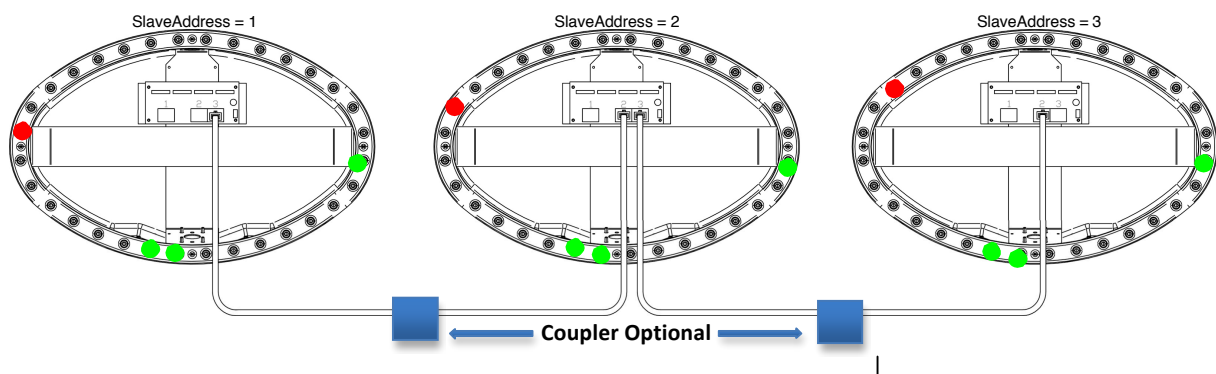

Figure 1: Toppers daisy chained
- Figure 1: Toppers daisy chained 4
Each topper must have a unique slave address. The slave address is shown on the first 8 topper leds for 3 seconds just after the power is applied to a topper. See red dots in figure 1. This address can be changed by **pressing the intensity button during power up**. By pressing the intensity button again the slave address can be changed (from 1-8). After 3 seconds the topper starts again.
In case all toppers are controlled by a master topper, the topper with the highest slave address must be set in master mode. This is done by placing 3 jumpers on the board. In figure 1 topper with slave address 3 should be configured as the master topper. See 4.1 Master topper jumpers.
The topper software version is displayed on the lower half of the topper during power up: Major version on leds 24 to 31 and the minor version on leds 16 to 23. See green dots in Figure 1. V2.1 is shown here.